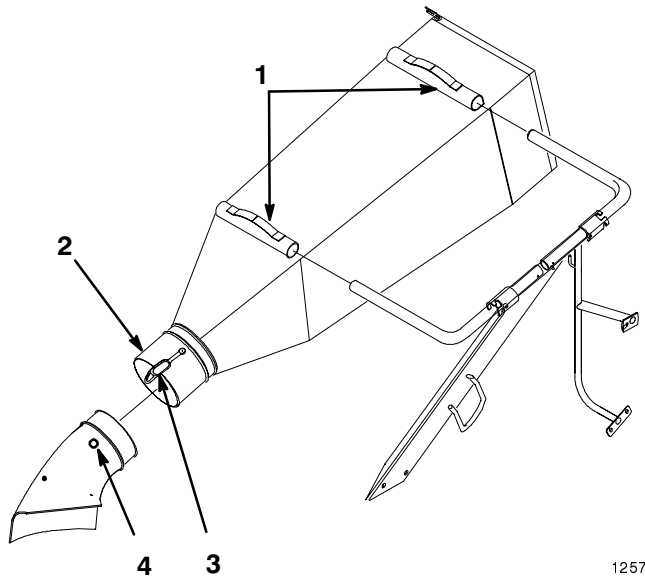

Figure 9
4. Slide bag seams onto bagger frame tubes so duct is positioned to front of mower (Fig. 9).
6. Slide duct onto chute assembly, aligning duct retainer with chute knob. Hook retainer onto knob, securing assemblies (Fig. 9).